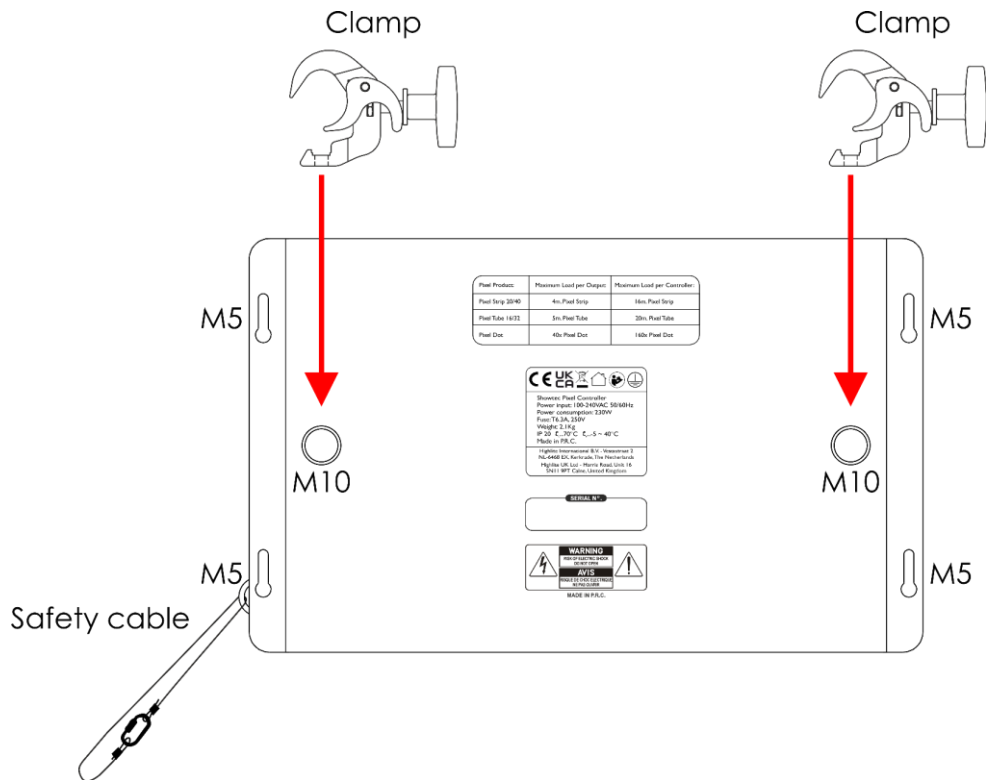

Fig. 06
- 01) Use clamps to attach the device to the supporting structure, as shown in Fig. 06 on page 13. Make sure that the device cannot move freely.
- 02) Secure the device with a secondary suspension, for example a safety cable. Make sure that the secondary suspension can hold 10 times the weight of the device. If possible, the secondary suspension should be attached to a supporting structure independent of the primary suspension. Put the safety cable through the **safety eye (13)**, as shown in Fig. 06 on page 13. You can use the safety cable supplied with the device.